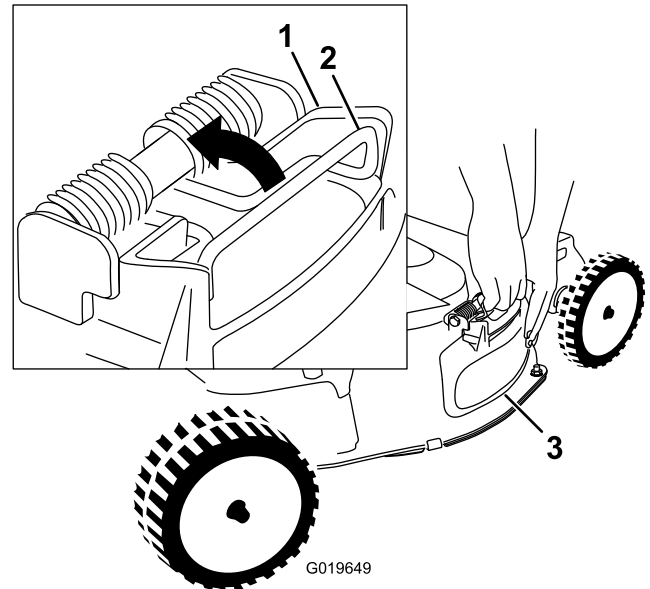

Figure 22
4. Remove the side-discharge deflector by pulling up on the spring that holds the deflector in place and removing the deflector (Figure 22).